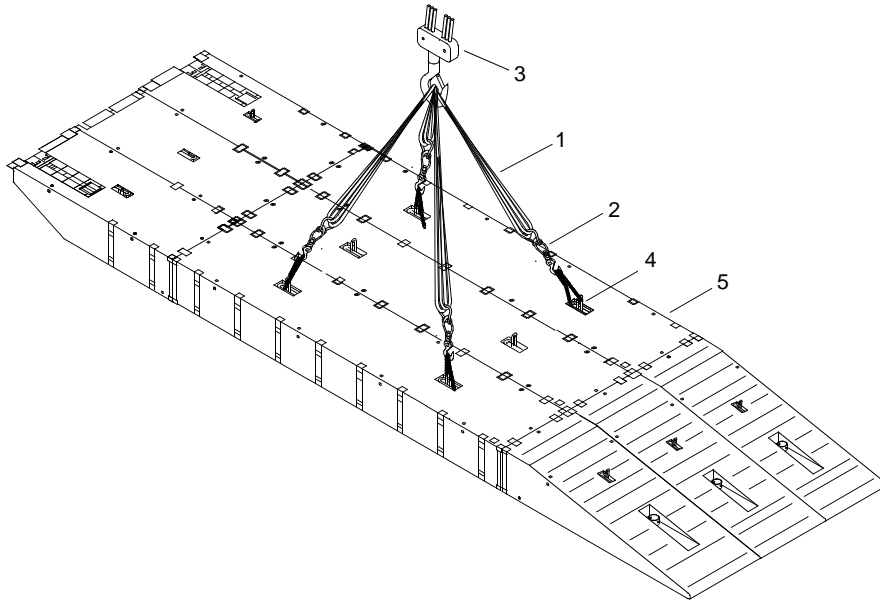

Figure 5. Lifting Combination Beach/Sea End Section
1. Attach four 53,000 lb slings (figure 5, item 1) and 36,000 lb adjustable chain slings (figure 5, item 2) from crane (figure 5, item 3) to padeye shackles (figure 5, item 4) on combination beach/sea end or intermediate section (figure 5, item 5).
2. Using slings (figure 5, items 1 and 2) and crane (figure 5, item 3), lift combination beach/sea end section (figure 5, item 5) onto vessel deck.
3. Remove 53,000 lb slings (figure 5, item 1) from 36,000 lb adjustable chain slings (figure 5, item 2) and crane (figure 5, item 3).
4. Remove 36,000 lb adjustable chain slings (figure 5, item 2) from padeye shackles (figure 5, item 7) on combination beach/sea end section (figure 5, item 5).